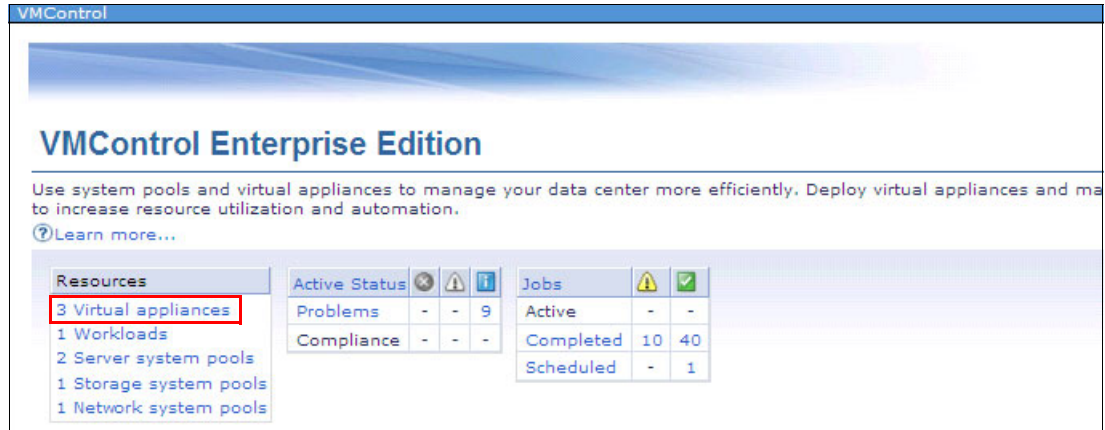

Figure 9-157 VMControl main window
17. Go back to the VMControl main tab and check that your appliance count is incremented as shown in Figure 9-157. Click **Virtual Appliances**.